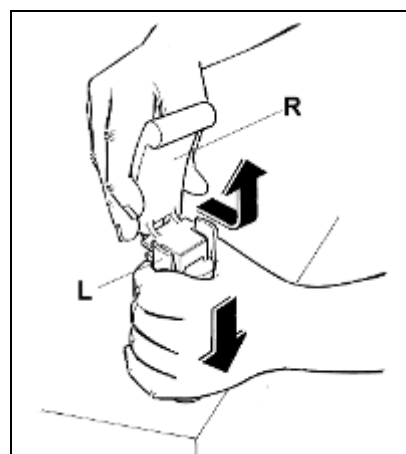

Fig. 3
- Disassemble the tap by keeping the body pressed down and slipping the lever from its seat (fig.3).